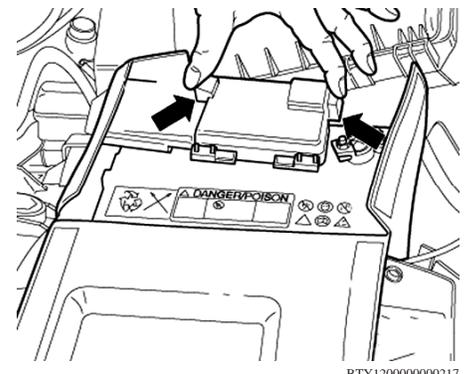

**Fig. 1** Air cleaner housing removal
4. Pull off intake hose (1), connector (2) and hose (3) from mass air-flow sensor, **Fig. 1**.
5. Remove air cleaner mounting bolts (4 and 5), **Fig. 1**.